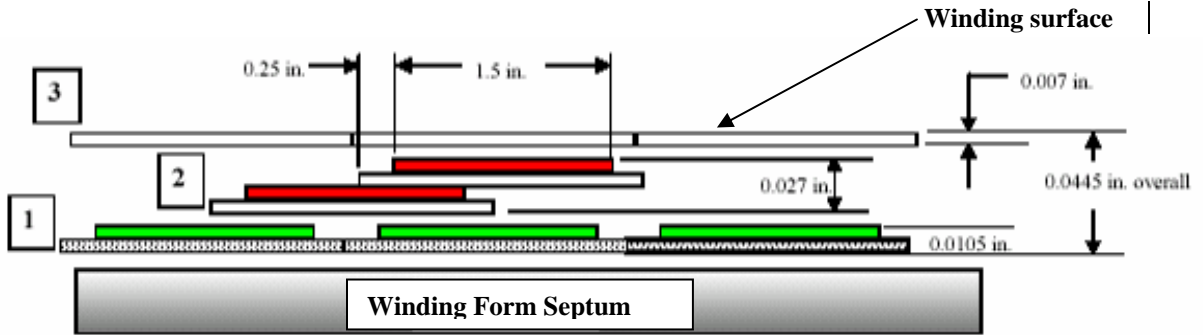

Figure 6- Groundwrap scheme
- Apply pre-cut layers (approximately 18 inches long) of ground wrap insulation Figure 6-Groundwrap scheme